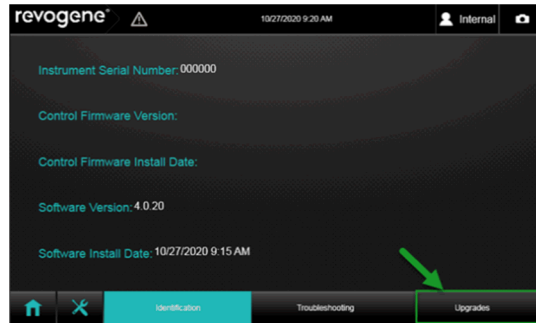

Figure 2. Upgrade Button Location
4. Tap the <Upgrades> tab on the bottom right (Figure 2).